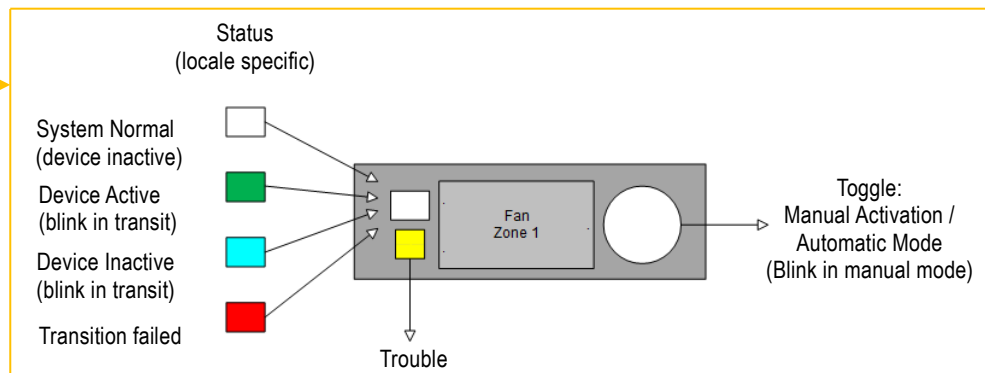

Figure 3: Examination of Single FTO2023-U3 Switch Section
- Standard configuration templates streamline setup and allows for quick and easy "1-step" configurations of the system. For example, with an assignment to a smoke device control and the template "Activate", a switch component could look like *Figure 3*.